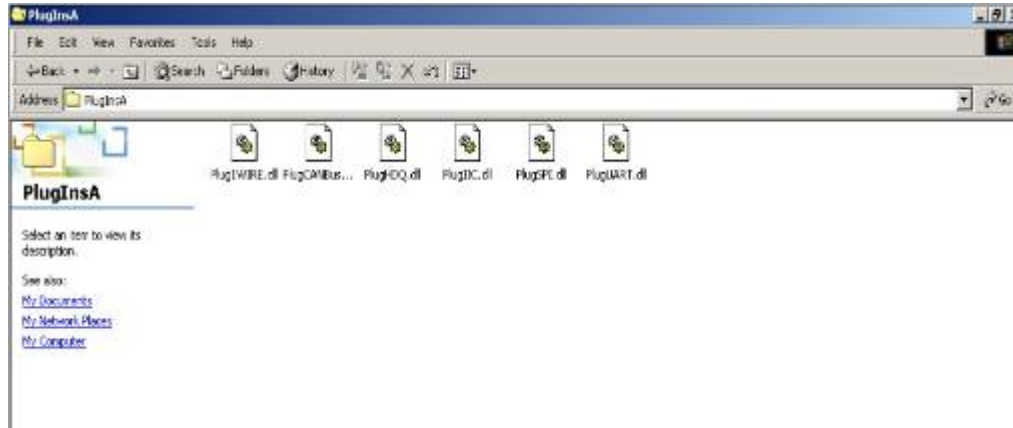

Fig4-35 - PlugInsA
STEP 1. Put the SPI Plug in the PlugIns as the Fig4-35.